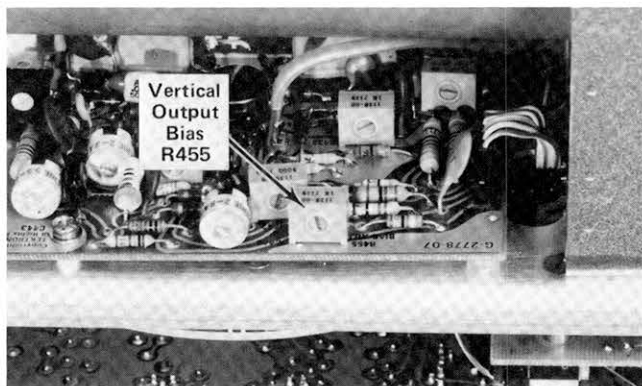

Fig. 5-7. Location of Vertical Output Bias adjustment.
c. ADJUST—Vertical Output Bias adjustment, R455, (see Fig. 5-7) for maximum deflection of signal.